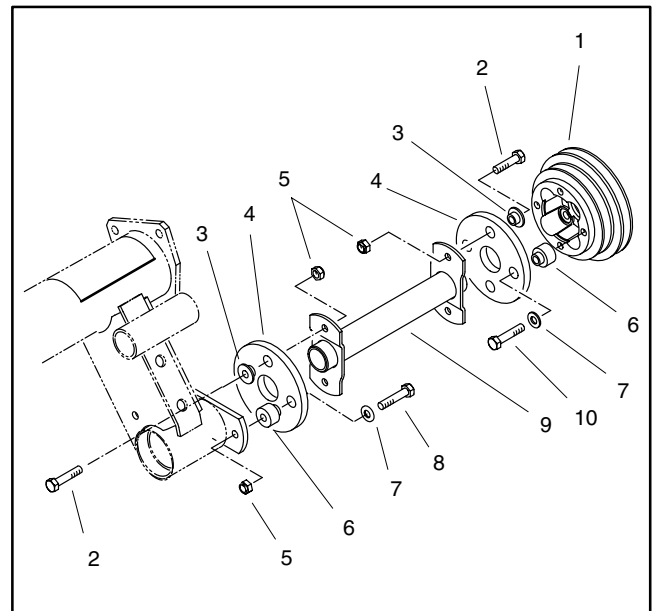

Figure 11
10. Remove four (4) cap screws (item 2) and lock nuts (item 5) that fasten both ends of hydraulic pump driveshaft to rubber couplers (Fig. 11). Locate and retrieve coupling spacers (item 3). Remove driveshaft.